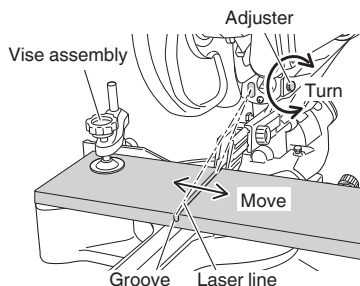

Fig. 36
- (2) Turn the adjuster to move the laser line. When working with the cut line on the left side of the saw blade, align the laser line with the left edge of the groove, and when aligning with the right side of the saw blade, align the laser line with the right side of the groove. (Fig. 36)